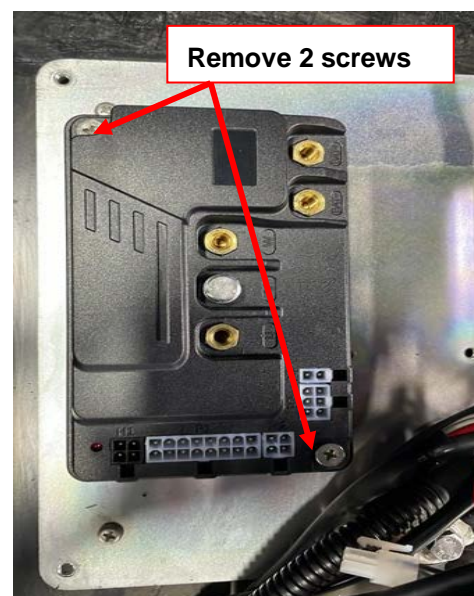

Figure 15
5. Remove 2 screws that are used to fix Drive Controller and take out Drive Controller (Figure 15).